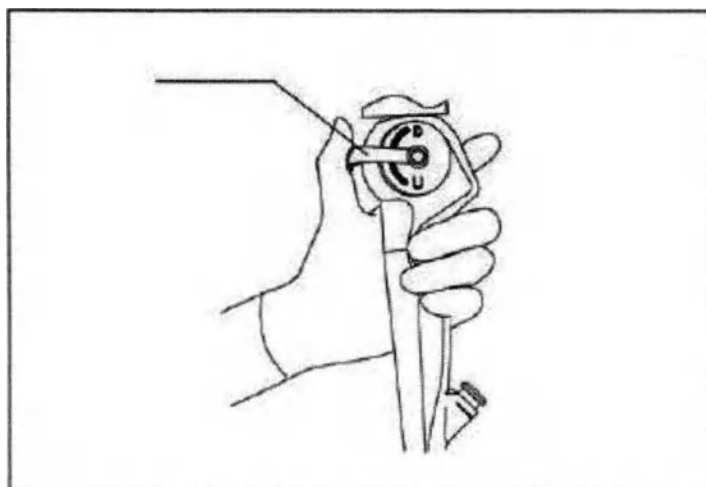

Fig 3.3
2. As shown below in Fig 3.3, turn the UP/DOWN angulation control knob slowly to its neutral position, confirm that the bending section returns smoothly to an approximately straight condition.
2. Hold the mirror with your left hand and put the thumb on the Angle lever, as shown in the Fig3.3. At this point, the image is seen in the same direction as the operator. If there is any abnormality, please stop using it immediately and contact the manufacturer.